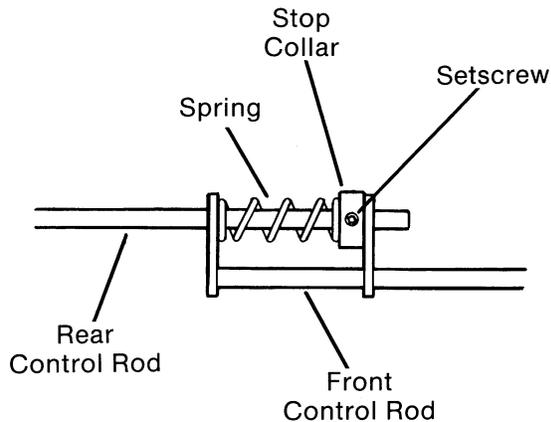

FIG. 21
- G. Loosen setscrew in stop collar on front control rod and move control lever into the "NEUTRAL" position. (Fig. 21) **Hold** control lever in "NEUTRAL" and retighten setscrew.